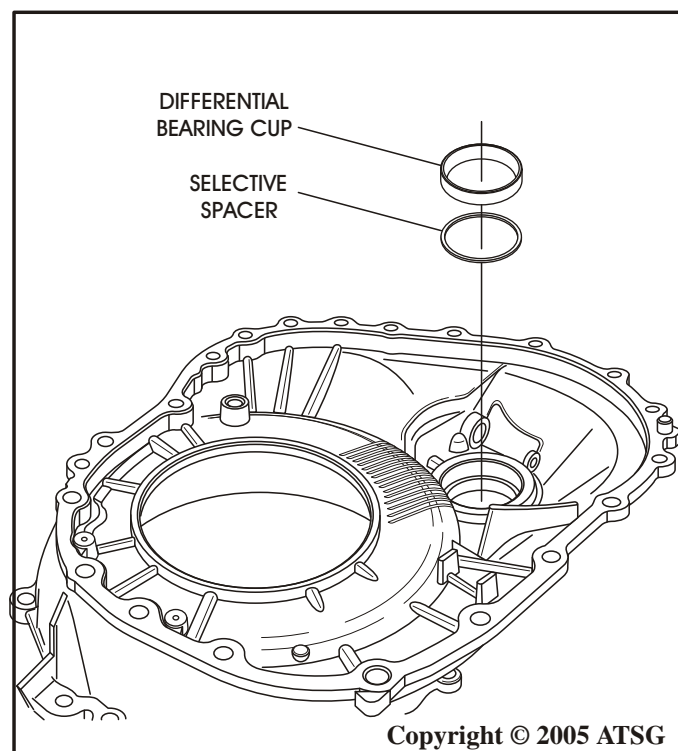

Figure 194
83. Install the original selective shim and new bearing cone, as shown in Figure 194, into the converter housing using proper drivers.
89. Remove the converter housing and the bearing cup, install the selected spacer and re-install the bearing cup, as shown in Figure 194.